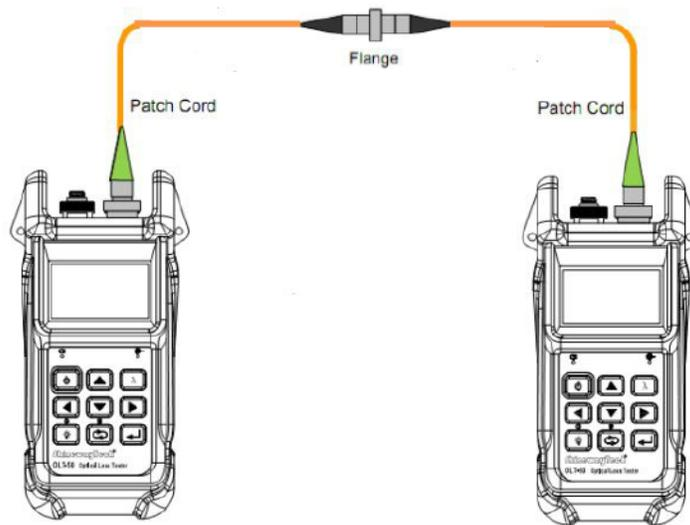

Figure 3.20
4. Connect the reference patch-cord: connect one unit OLT port to another unit OLT port with two reference patch cords. See Figure 3.20: